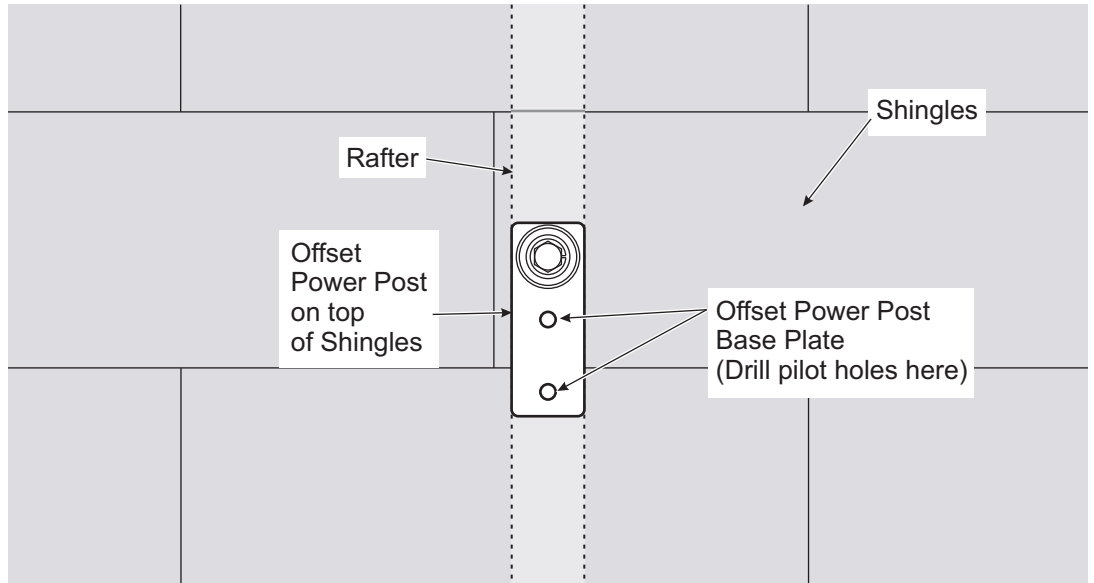

Figure 1-1: Positioning the Offset Power Post and Drilling Pilot Holes
- B. Center the Offset Power Post base plate over the rafter and using the 2-holes in the base plate as locators, drill two 3/16" pilot holes as shown below in Figure 1-1.